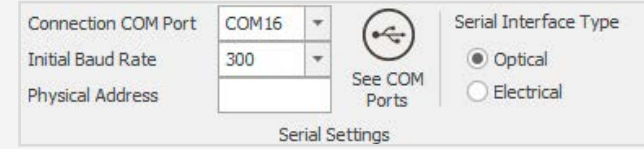

FIGURE 15
**Counter Factor:** This option is only used at the multiplication of counter profile values with an external factor during the registry. It is not essential for serial communication module. This value cannot be left blank and if there is no factor it must be entered as 1. When the selected counter changes in the list of registered counters the information of recently selected counter is filled automatically at the fields shown in Figure 15. When the location name, serial number, counter type and factor values are desired to be changed, after selecting the relevant counter from the registered counters then the modifications can be applied by updating at these fields under the **Operations** group. There will be no changes at the system for the new entries or alterations on existing counter information unless saving to the system by the utilization of buttons at the Operations group. These fields must not be left blank in the course of registering and saving the counter.
Setting group can change according to the selected communication type. When serial communication type is selected it is shown in Figure 15.